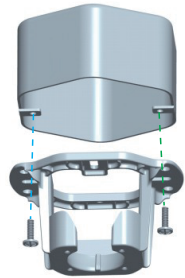

Fig 4.1
Install the mounting bracket to the ceiling box, as shown in Fig 4.1 below. Rotate the mounting bracket in different directions so that the bracket mounting holes match the screw holes of the ceiling box.
**Note:** This mounting bracket is a standard cable box. If the mounting bracket is installed at the outlet box, it should be installed on the outlet box with two screws matching the outlet box itself, as shown in Fig 4.1.